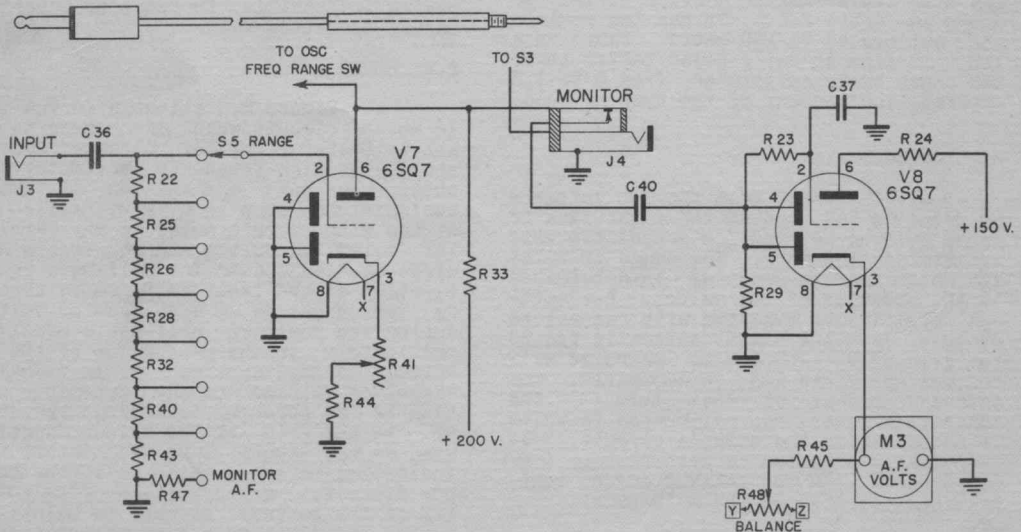

Figure 2.4 - AF Voltmeter
a. The audio-frequency range voltmeter circuit is shown in Figure 2.4. A-f voltages are fed through C36 to a resistance voltage dividing network. The RANGE switch, S5, selects the range in voltage which may be measured except in the MONITOR AF position in which it becomes a switch in the monitoring system.